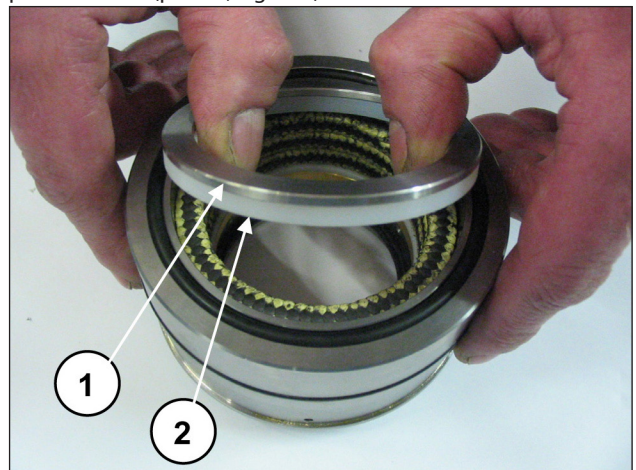
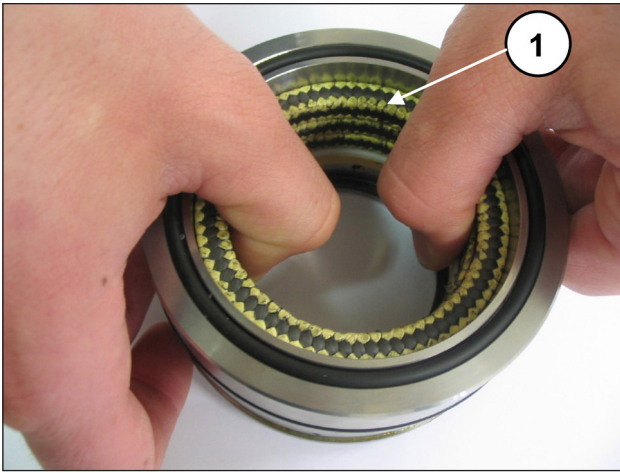

Fig. 161
Fig. 162
Separate the seal support from the liner, remove the spring ring and scraper ring (pos. ①②, Fig. 161) to access the pressure seals (pos. ①, Fig. 162).